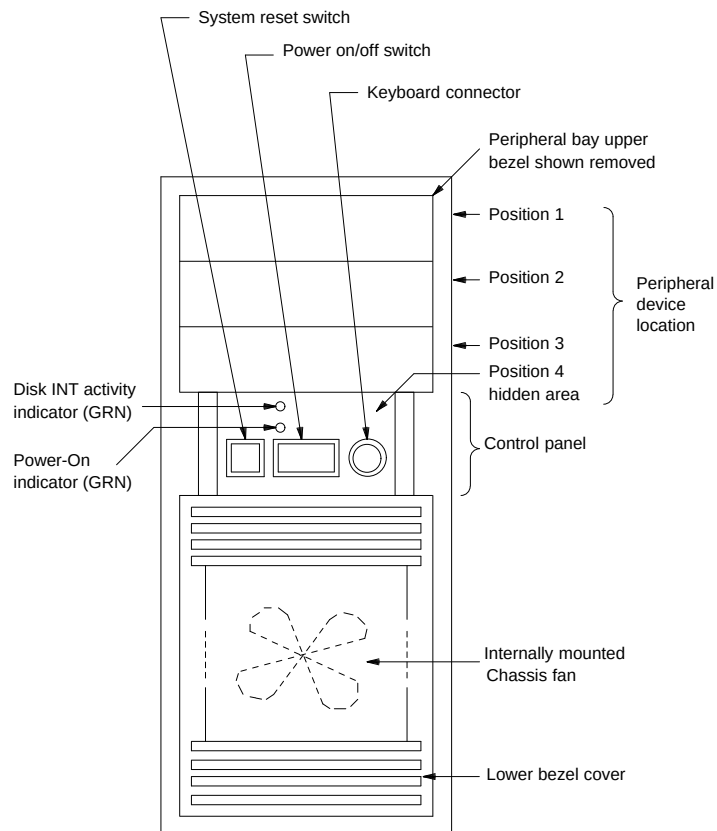

Figure C-15. MAP/40 Front Control Panel Assembly
6. Remove the bottom front bezel that holds the card cage fan filter, and the top front bezel in front of the peripheral devices as illustrated in Figure C-15.
1. If the main power switch is to be removed, disconnect the four fast-on connectors to the switch, making special note of the connections by referring to Figure C-15.
4. Reconnect the four fast-on power connections in the proper order as shown in Figure C-15.
1. Disconnect the two fast-on connectors to the reset switch, making special note of the *switch terminals* the two leads were connected to. The order of these two leads is not important, however, the proper switch contacts are. Refer to Figure C-15.
4. Reconnect the two fast-on power connections in the proper order as shown in Figure C-15.
14. Reattach the front keyboard cable assembly connector to the front control panel using the two lock nuts removed in Step 7. Also attach the reset switch leads to the proper switch terminals as shown in Figure C-15.